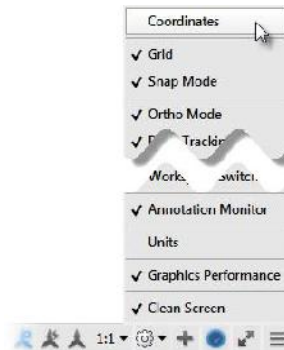

FIGURE 2.11: Adding the Coordinates readout to the status bar
2. Add the Coordinates readout to the status bar by clicking the Customize button on the status bar, and then selecting the Coordinates option from the resulting menu shown in Figure 2.11.